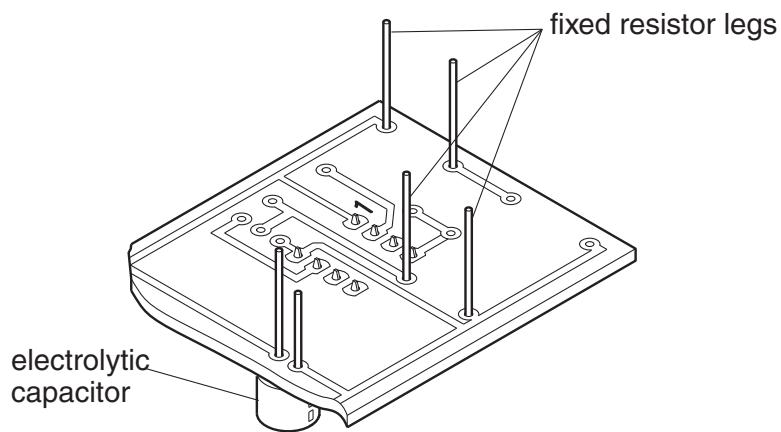

Fig. 7
- (d) Fig. 7 shows part of the temperature sensor PCB ready for soldering.